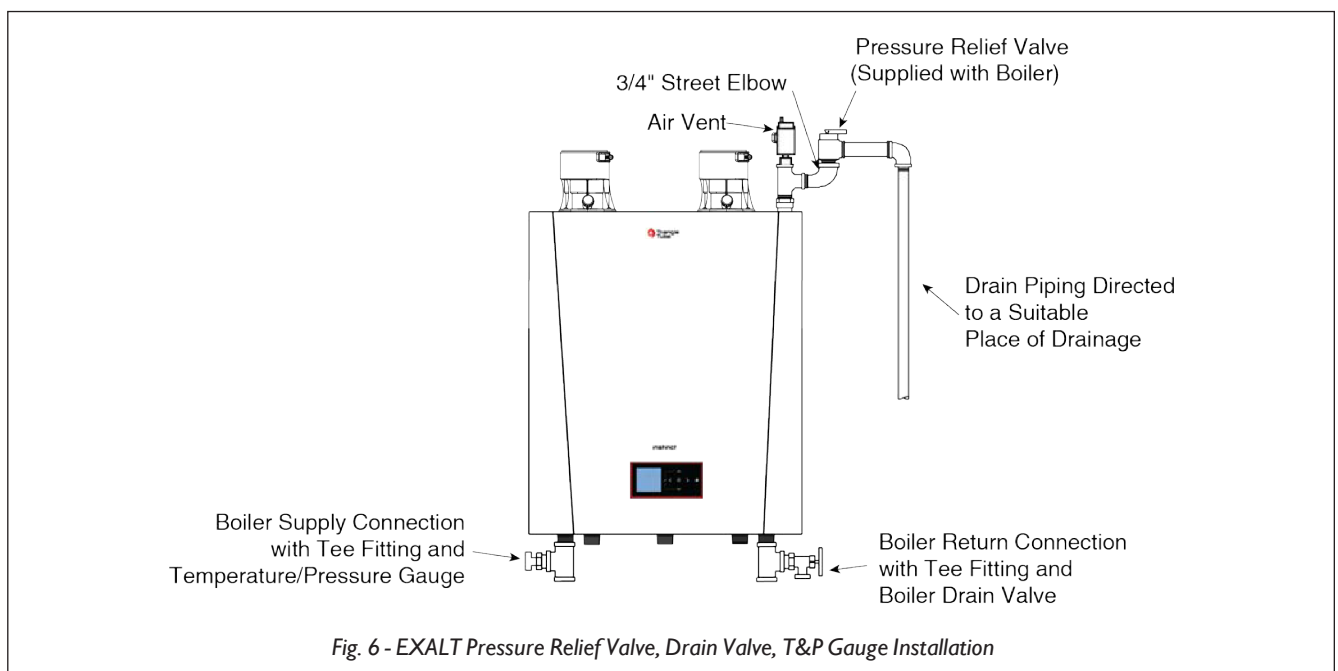

Fig. 6 - EXALT Pressure Relief Valve, Drain Valve, T&P Gauge Installation
1. The EXALT is supplied with a 30 psi pressure relief valve and must be piped using the PRV connection as shown in Fig. 6 below.